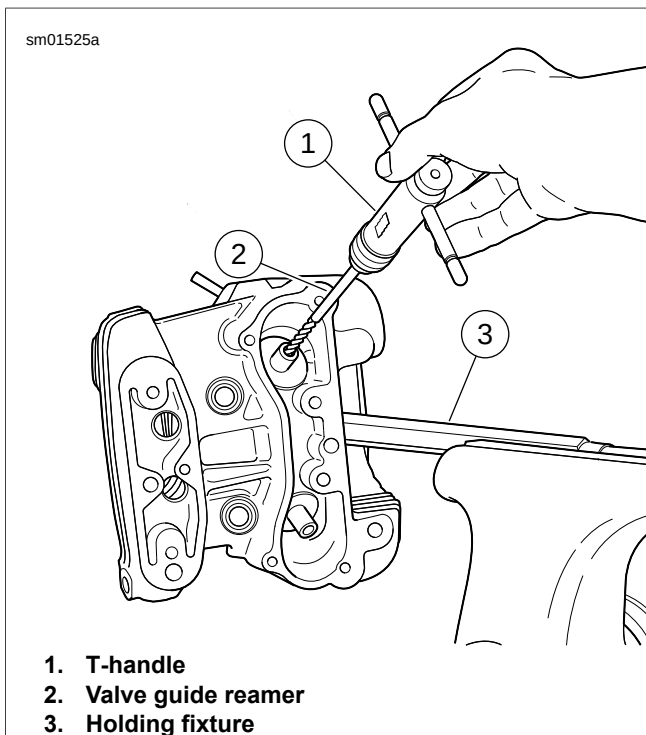

Figure 3-62. Reaming Valve Guide Bore
- a. See Figure 3-62. Thread 12 mm end of CYLINDER HEAD HOLDING FIXTURE (Part No. HD-39786) into cylinder head spark plug hole.